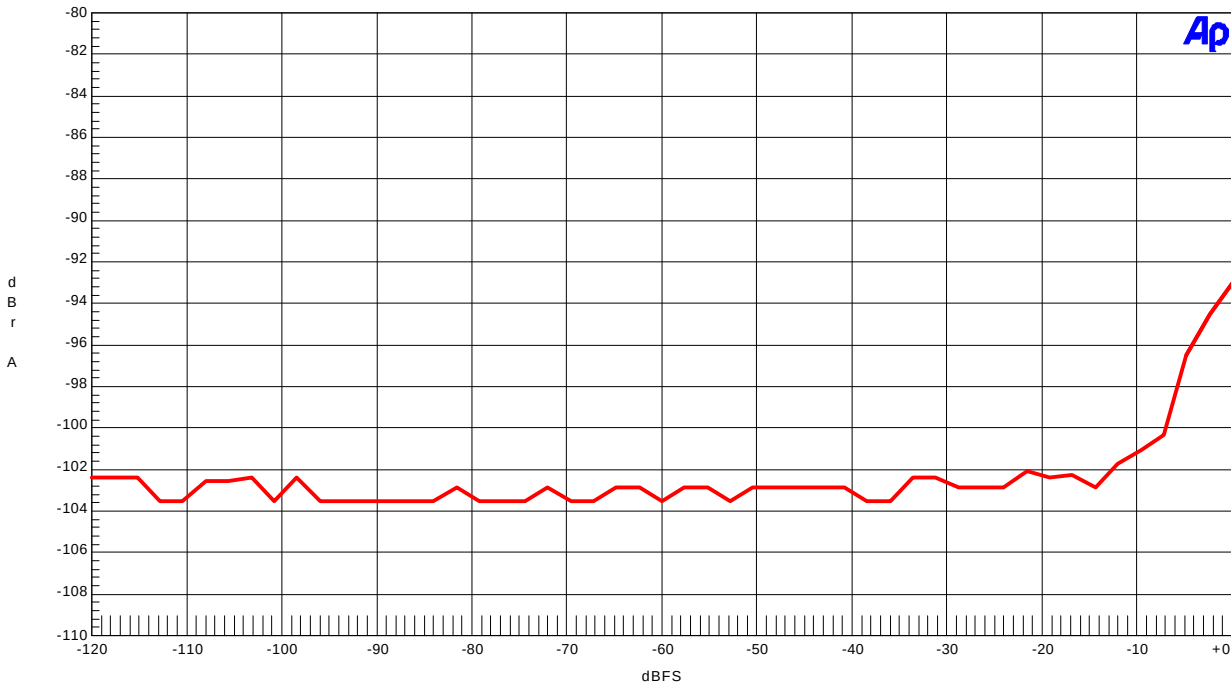

Figure30. THD+N vs Input Level (fin=1kHz)
- Figure30. THD+N vs Input Level (fin=1kHz)